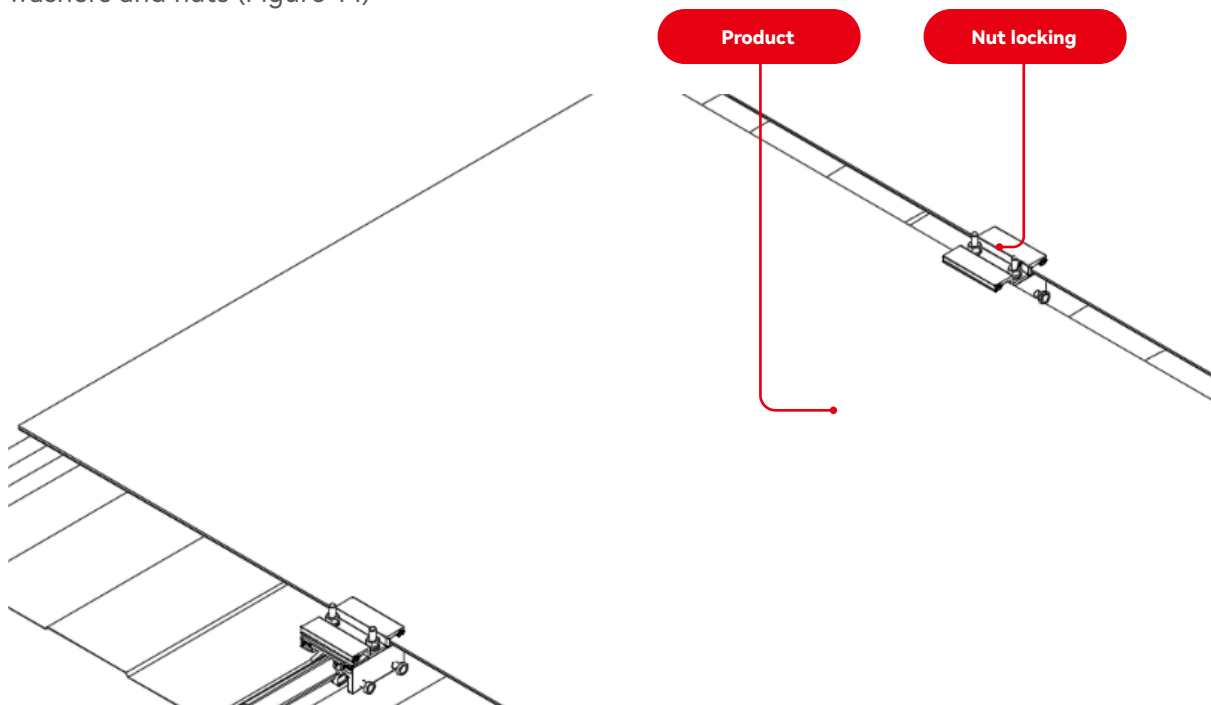

FIGURE 14
⑩ Put the clamp cover on the base of the second horizontal row of clamps and fasten it with washers and nuts (Figure 14)